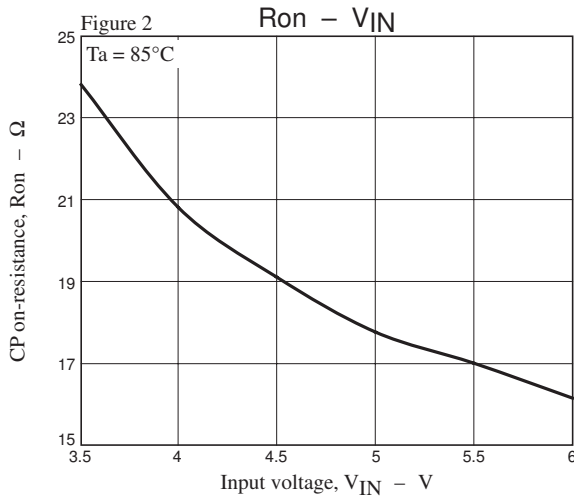

Figure 2 : Charge Pump Block Impedance - Input Voltage Characteristics ($T_a = 85^\circ\text{C}$) : Assumed Worst Case ($C_1, C_2 = 1\mu\text{F}$)
Next, consider figure 2, which shows the relationship between the input voltage V_{IN} and the charge pump block impedance R_{on} at $T_a = 85^\circ\text{C}$, which is the maximum temperature for which operation is guaranteed. At $T_a = 85^\circ\text{C}$, if $\Delta V_{reg} [\text{min}] = 0.3\text{V}$ (inferred worst case value), the LV5254's maximum output current can be expressed as equation (4).
The current capacity shown in figure 3 can be determined from the characteristics in figure 2 when V_{OUT} is set to be -3V .